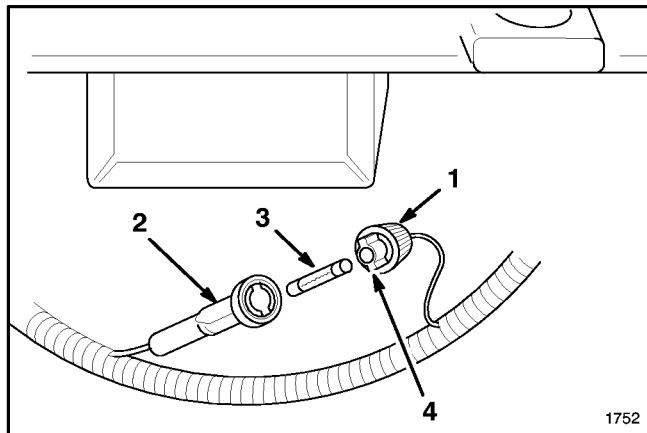

Figure 29
1. Push the two fuse holder sections together. Rotate fuse holder cap to open fuse holder (Fig. 29).